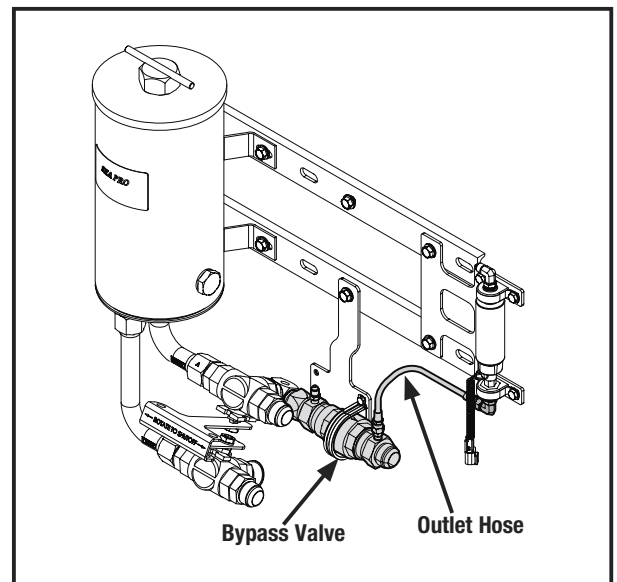

Figure 7 - Attaching the Outlet Hose
7. Attach the Bypass Valve Bracket and strap as shown in Figure 7. Attach the Primer Pump Assembly outlet hose to the Bypass Valve at the end closest to the outlet manifold and attach the other end to the bottom of the Primer Pump as shown in Figure 7. Torque each fitting to 10-15 ft-lb (13.6-20.4 N•m).